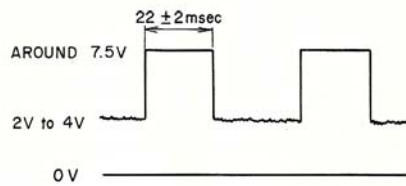

Fig. 21
- e) Adjust VR1 until the width of the upward pulse above 2 to 4V is 22 ± 2 msec when the Strobe markings is seen standing still, as Fig. 21. (oscilloscope-DC Mode)